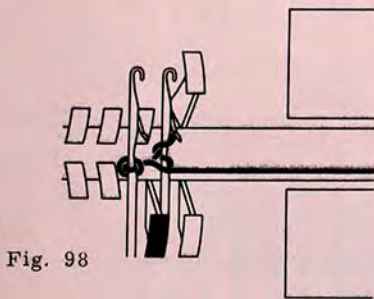

Fig. 98
** Left side : put 1 nd in rest-position and 1 sinker in neutral-position, fig. 98, - knit 1 row.